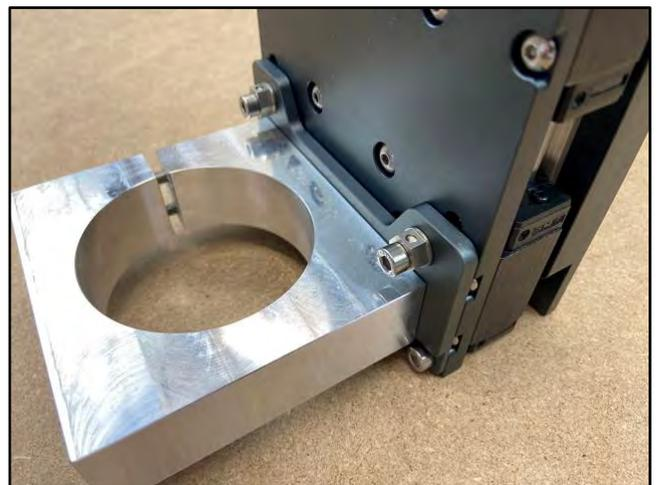

Figure 12
3. Loosely attach the EZ-Tram to the front of the HDZ. See **Fig. 12**.
- d. Insert the two (2) M5×10mm SHCS into the EZ-Tram's bottom through-holes and finger-tighten.